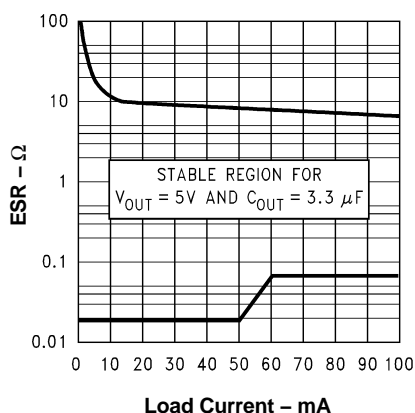
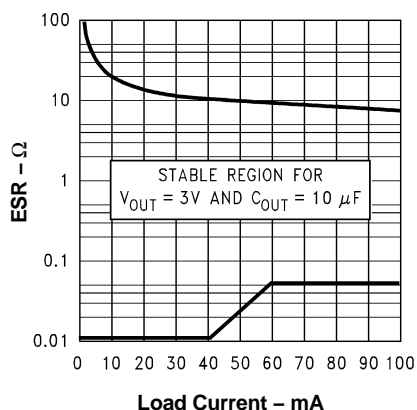

Figure 2. 5-V/3.3- μF ESR Curves
Figure 5. 3-V/10- μF ESR Curves
- ESR range: see Figure 2 through Figure 5